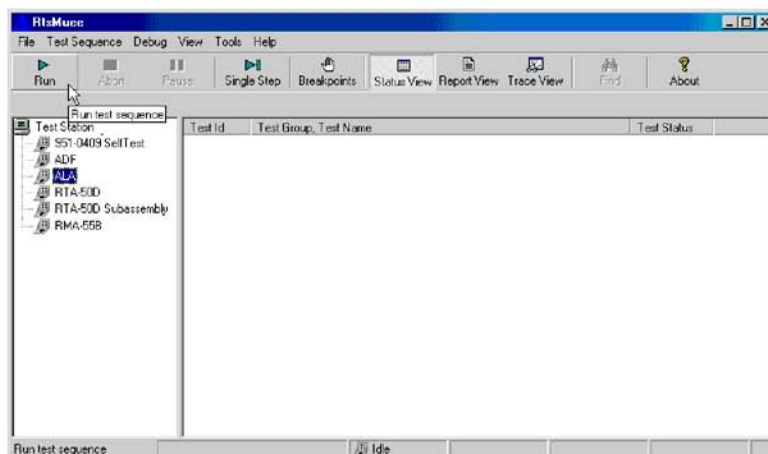

Figure 1. RTSMuee Start-up Menu
4. Double click the shortcut "CommNav RTS Test Executive" either from the desktop or from Start->Programs->RTS->CommNav RTS Test Executive to launch the CommNav RTS Software. Once the Test Executive (RtsMuee) window opens, the UUT options are shown (see Figure 1).
- 1 Click on the **Run** button after highlighting the appropriate UUT under **Test Station** in the navigation window (see Figure 1).